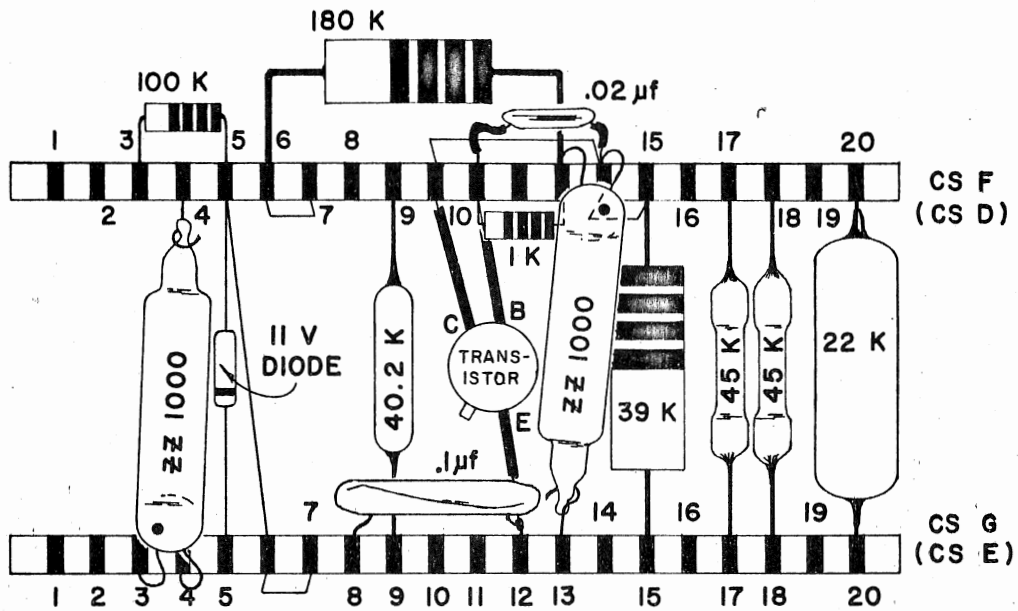

Fig. 3
16. Solder the following wires and components to the points indicated in Fig. 3. (Parts from kit except as noted):